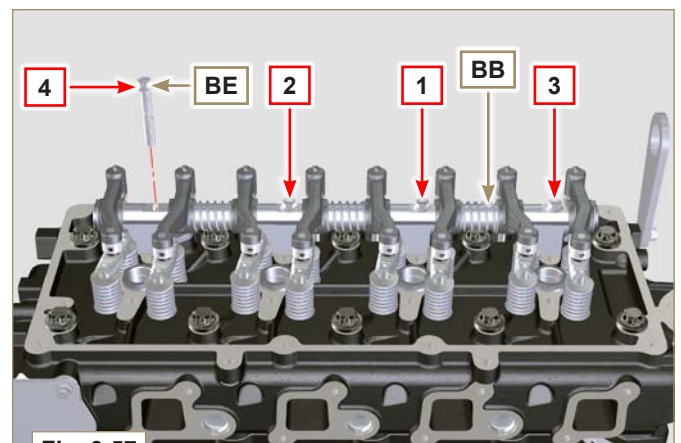

Fig. 9.57
- 3 - Secure the rocker arm pin **BB** tightening the screws **BE** (tightening torque to **25 Nm**). Adhere to the screw tightening sequence **BE** as shown in **Fig. 9.57**.